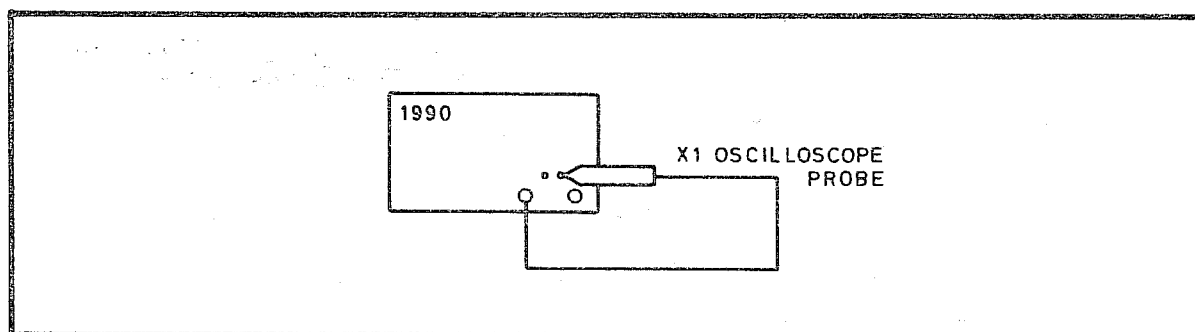

Fig 7.25 Connections for A Channel AC/DC Coupling PVP
- 66 (1) Use the oscilloscope and probe to set the B trigger level to about + 2 V.
- (2) Connect the test equipment as shown in Fig 7.25.